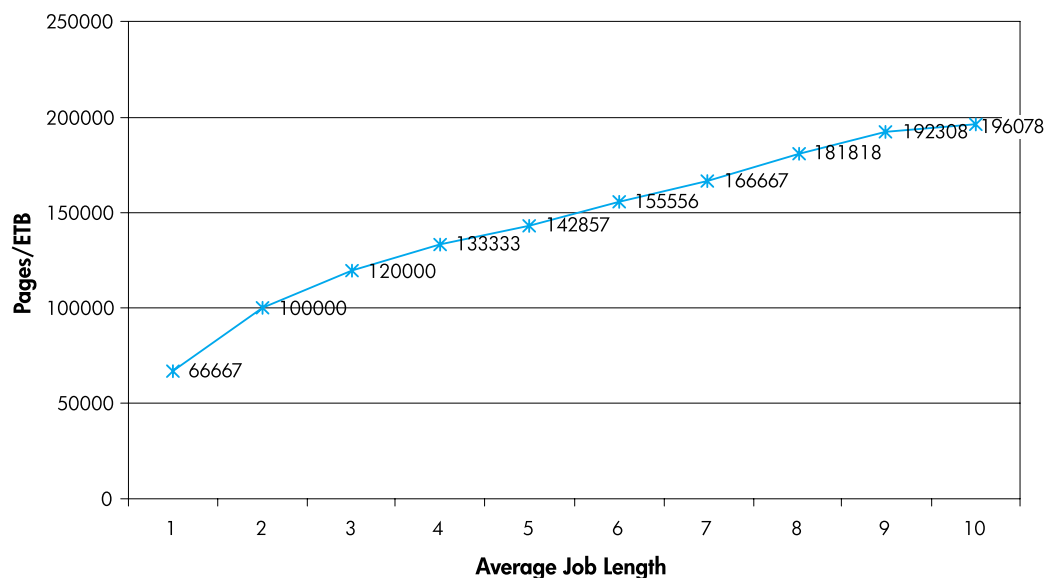

Figure 4-1 ETB total page count according to average job length
3. Usage conditions and print patterns cause results to vary. See Figure 4-1 on page 79 for more information.
Figure 4-1 shows how many pages an ETB will print, given various average job lengths.